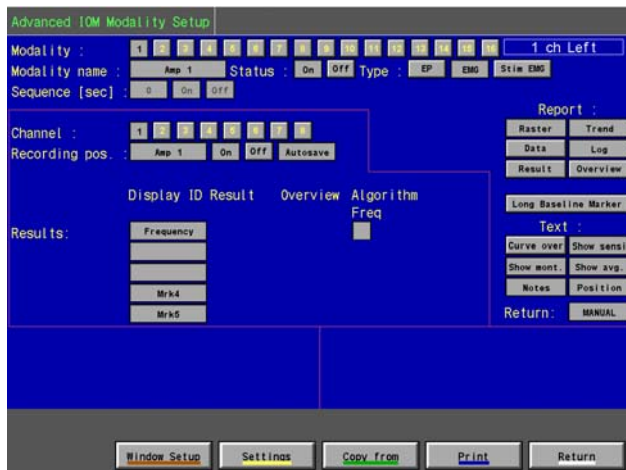

Figure 35 The Auto Save Button
- Click **Autosave** until the wanted state is obtained see Figure 35 below.